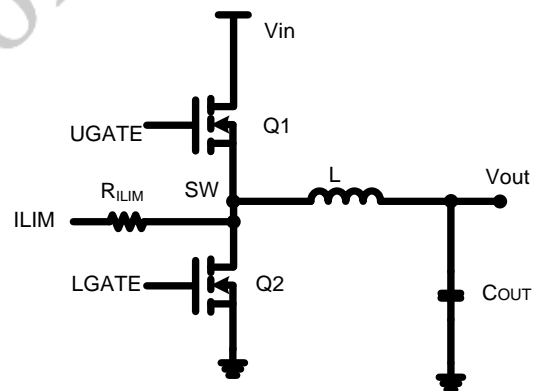
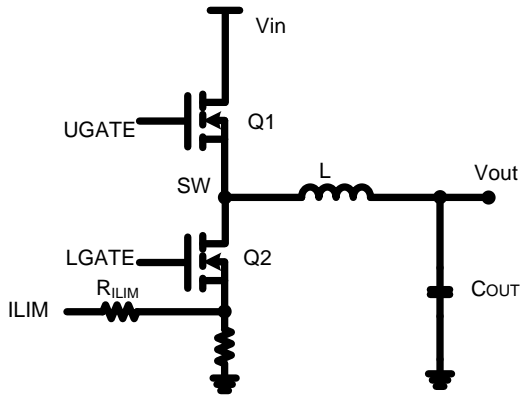

Figure15. MOSFET R_{DS(on)} Current Sensing
Figure16. Shunt Resistor Current Sensing
JWH6344 has a cycle-by-cycle overcurrent limiting control. A valley current limit is designed in the JWH6344 so that only when output current drops below the valley current limit can the high-side MOSFET be turned on. To provide both good accuracy and cost effective solution, the JWH6344 supports temperature compensated MOSFET R_{DS(on)} sensing mode and shunt resistor sensing mode, and it detects the appropriate mode at start-up and sets the source current amplitude and temperature coefficient (TC) accordingly. Figure15 portrays the R_{DS(on)} sensing mode which resistor R_{ILIM} is tied to SW to use the R_{DS(on)} of the low-side MOSFET as a sensing element (termed R_{DS(on)} mode) and Figure16 shows the shunt resistor sensing mode which R_{ILIM} is tied to a shunt resistor connected at the source of the low-side MOSFET (termed R_{SENSE} mode).